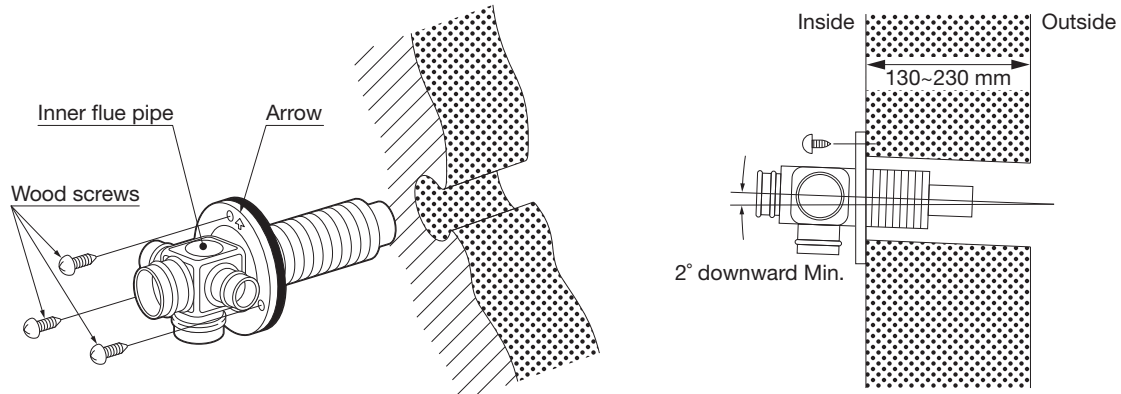

Fig. 4
- a. From inside the room, insert the inner flue pipe through the hole. Make sure the arrow on the inner flue pipe is pointing up. Secure the inner flue pipe to the wall with the three wood screws. (See Fig. 4)